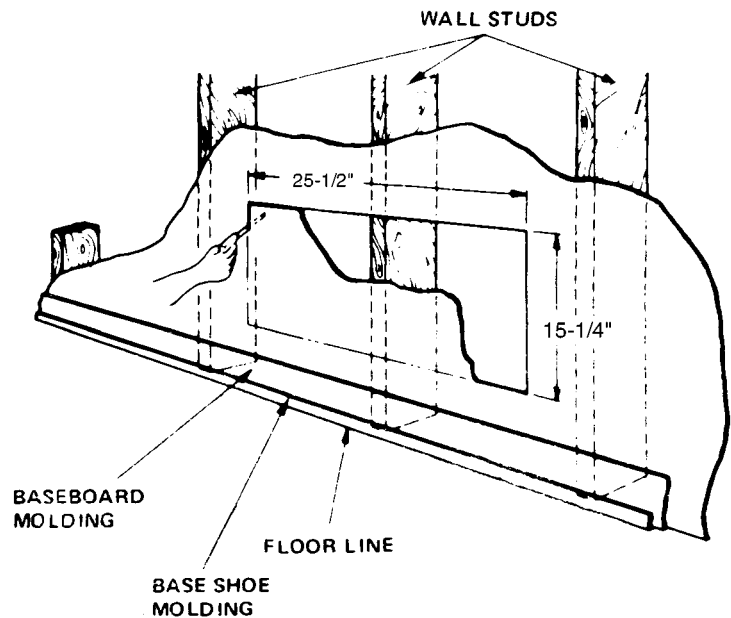

Fig. 6
1. Select location and cut rectangular opening through wall to Sleeve dimensions (25-1/2" w x 15-1/4" h). Allow enough height, depending upon wall thickness, to permit $\geq \sqrt{v}$ min. slope to outside. See Figure 6.